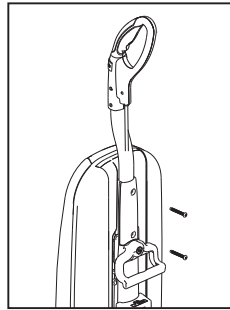

Fig. 3
- Place the handle bracket back into position (Fig. 3).